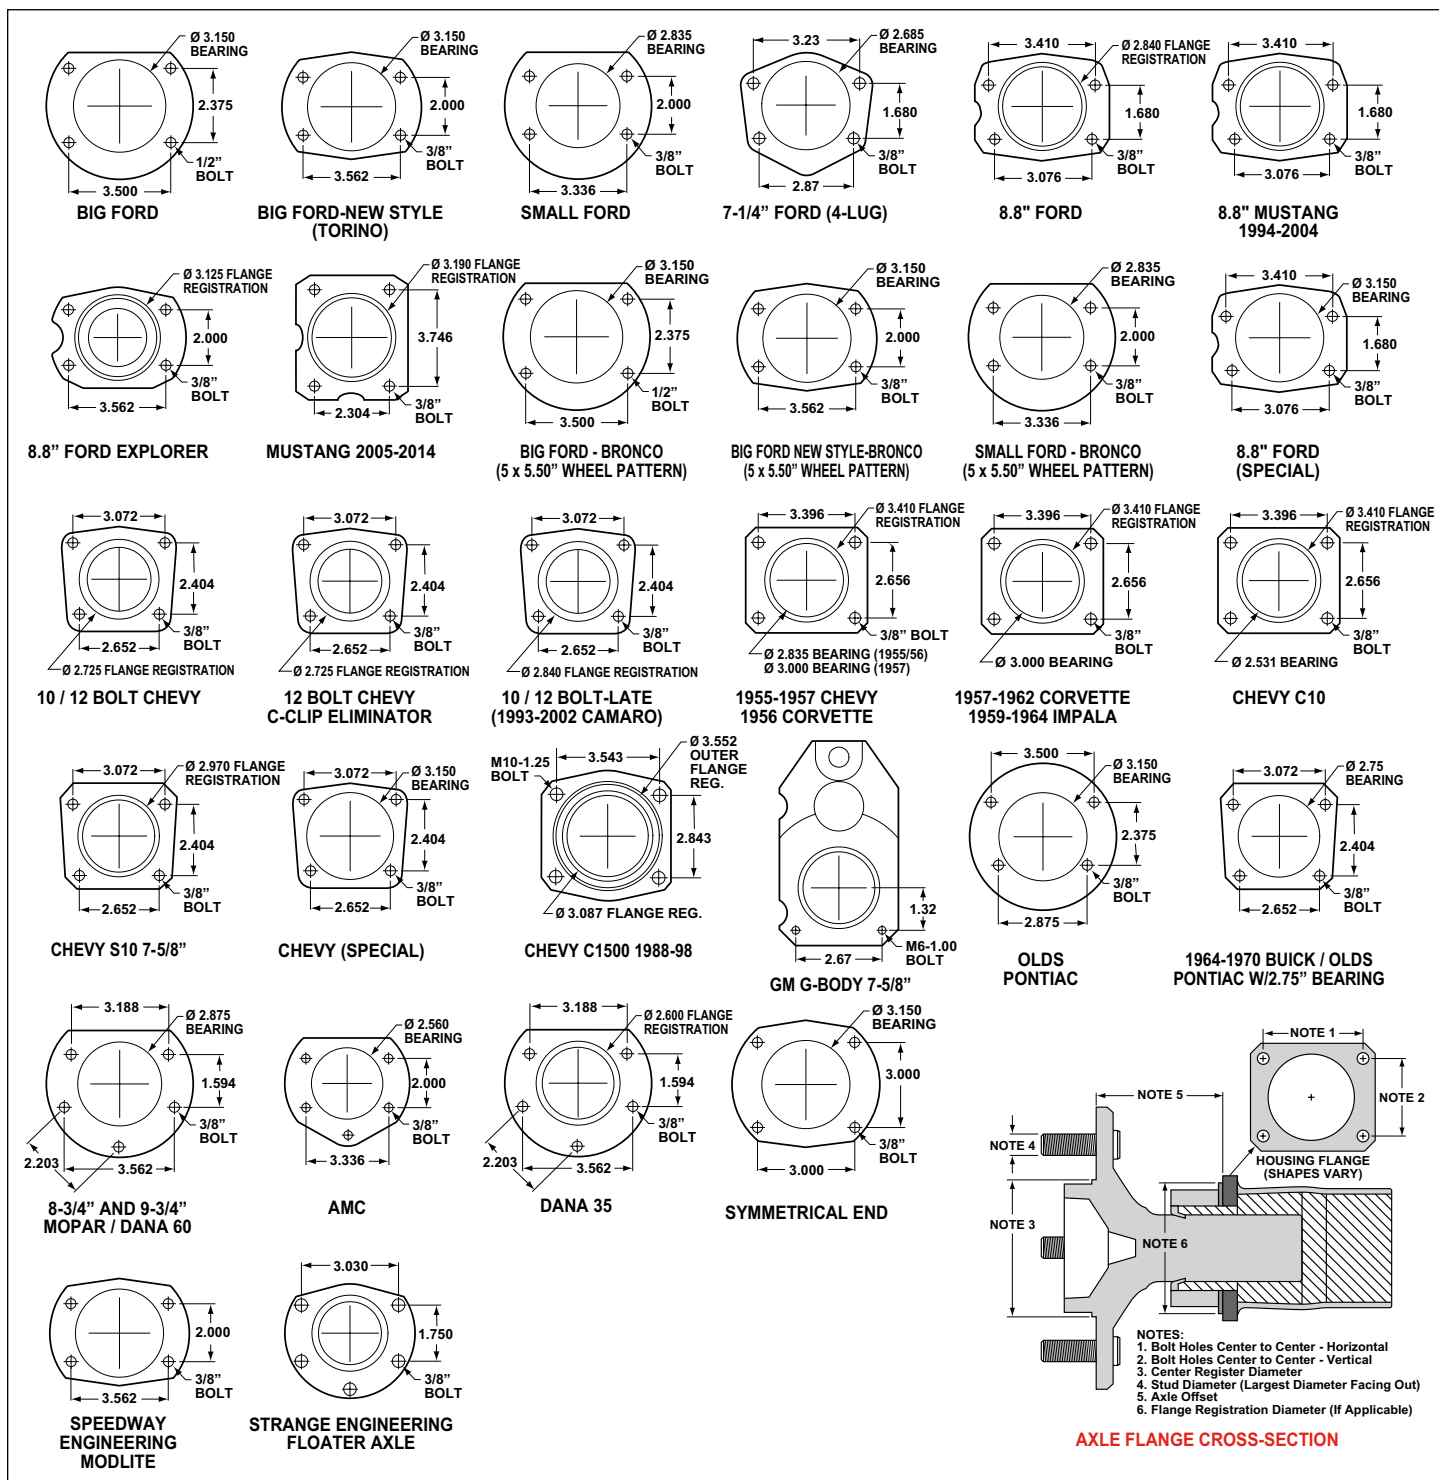

Figure 5. Rear Housing Flange Chart and Axle Flange / Offset Cross-Section
•Dimension from wheel side of axle flange to wheel side of axle housing flange (see Figure 5, lower right hand corner). This dimension is critical to ensure proper alignment of the rotor to the caliper, and should match offset given in the kit description.